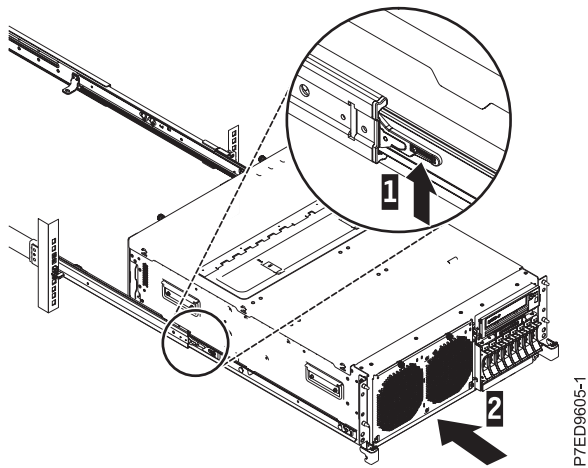

Figure 9. Release latches and server
8. Lift the blue release latches (1) on the slide rails and push the server (2) all the way into the rack until it clicks into place, as shown in Figure 9 on page 9.